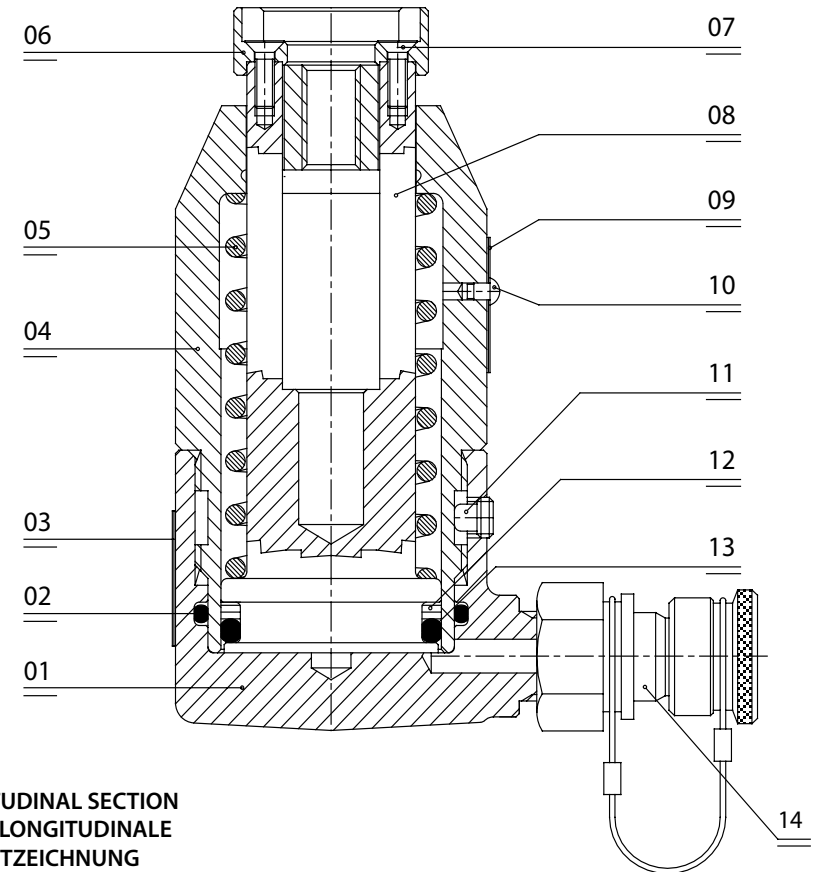

FIG. 10
5. PART LIST (Ref. to Fig. 10)